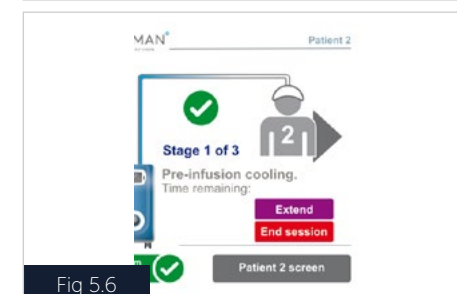

Fig 5.6
- A countdown timer will be activated depicting the time remaining for Stage 1 (Fig 5.6). The duration of Stage 1 cooling is standardized at 30 minutes. **Extend Stage 1 Cooling for patients with thick hair.**